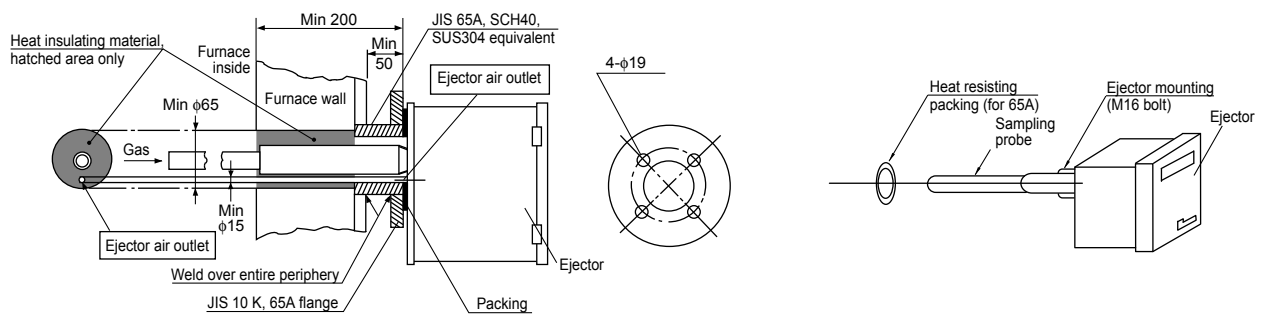

Fig. 4-1 Ejector mounting (unit: mm)
- (4) Do not completely close the route between the ejector air outlet (see Fig. 4-1) and furnace inside with thermal insulating material or others. Provide at least $\phi 15$ of hole straight from the ejector air outlet. A pipe of about 15 mm of inner diameter together with heat insulating material may be wound on the probe by means of stainless steel wire.